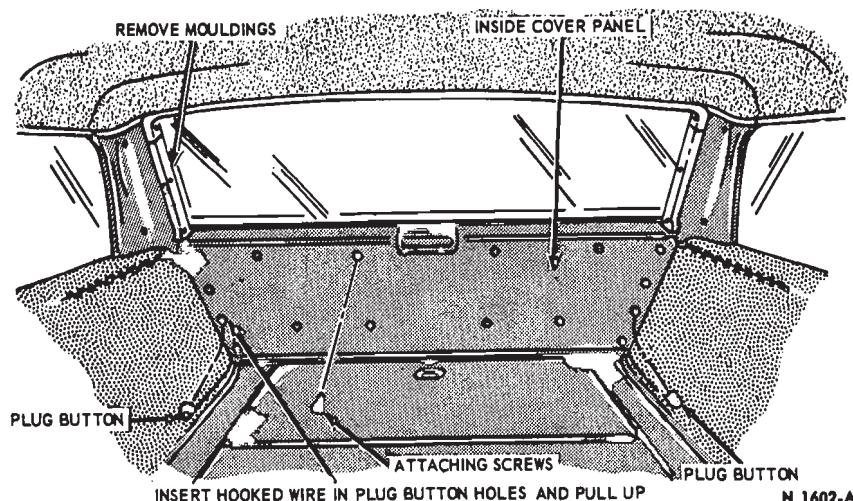

FIG. 14—Tailgate Emergency Opening—Typical
3. Insert two wire hooks in the upper side screw holes and slide the inner panel up and off the tailgate (Fig. 14).